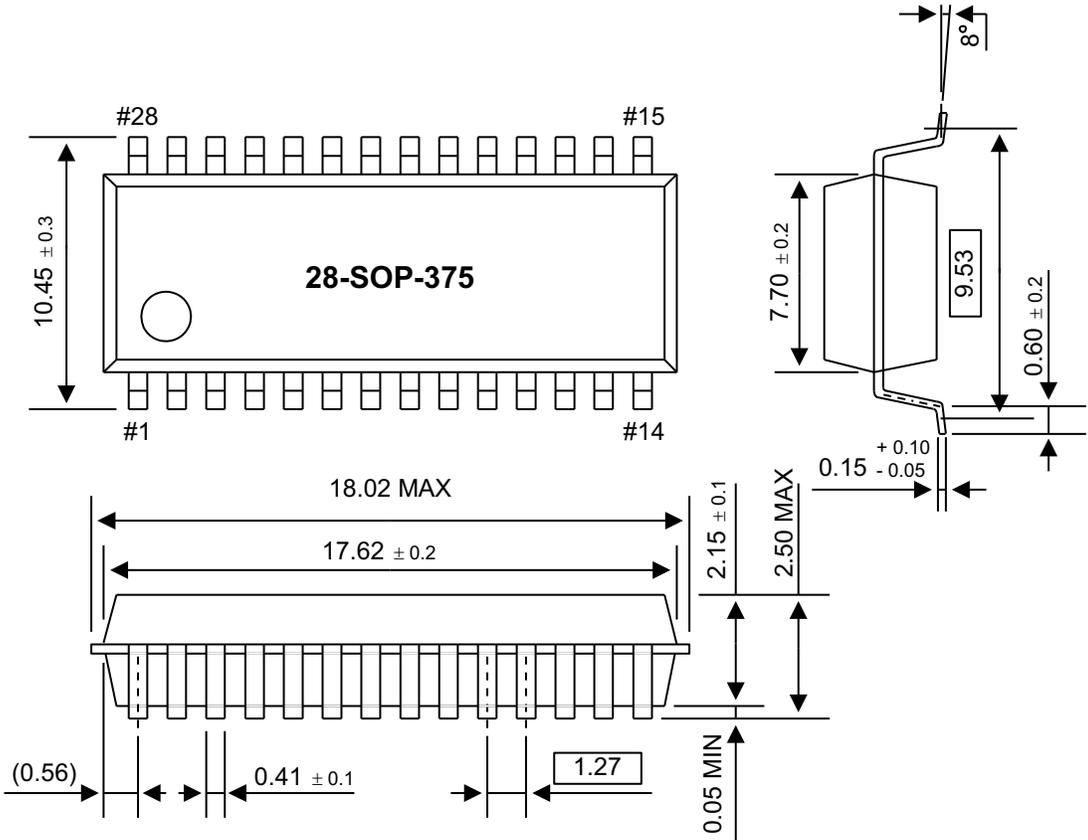

Figure 101. 28-Pin SOP Package Dimensions
► **Note:** In Figure 101, dimensions are in millimeters.